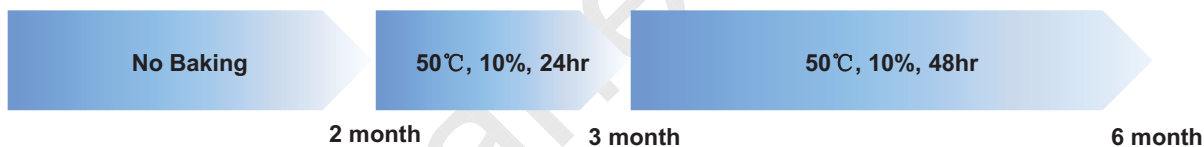

Fig. 6
- (1) Temperature : 5 ~ 40 °C
- (2) Humidity : 35 ~ 75 %RH
- (3) Period : 6 months
- (4) Control of ventilation and temperature is necessary.
- (5) Please make sure to protect the product from strong light exposure, water or moisture. Be careful for condensation.
- (6) Please keep the modules at a circumstance shown below Fig. 6